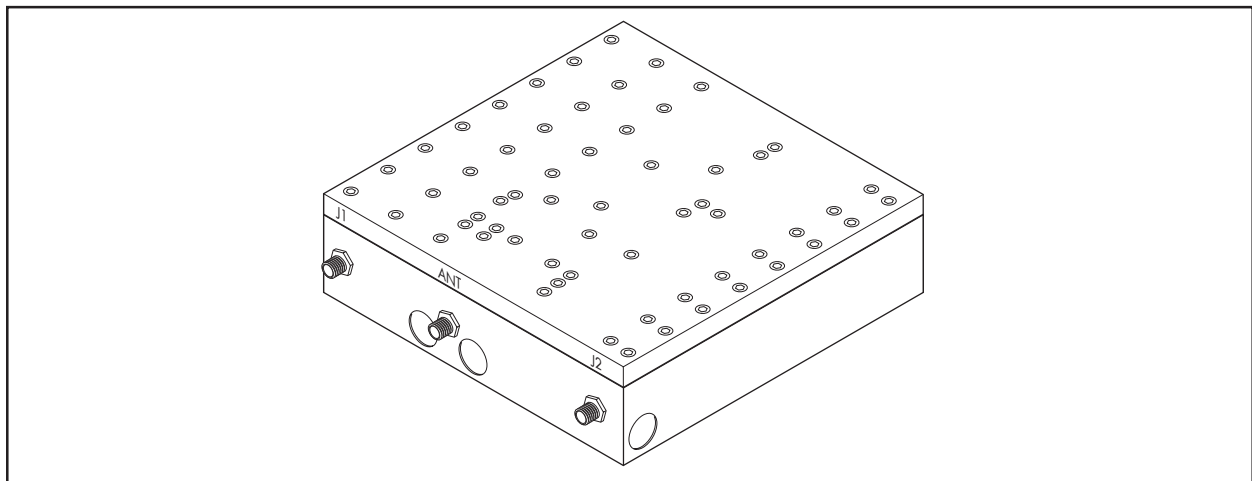

Figure 2-2. 2.4 GHz Diplexer
2. The RF unit may be identified by following the connection from the port labelled “IF” on the rear of the RFC. This connection terminates at the RF unit. The diplexer may be identified by following the connection from the “Antenna” port on the rear of the RFC. This connection terminates at the diplexer, illustrated in **Figure 2-2**.